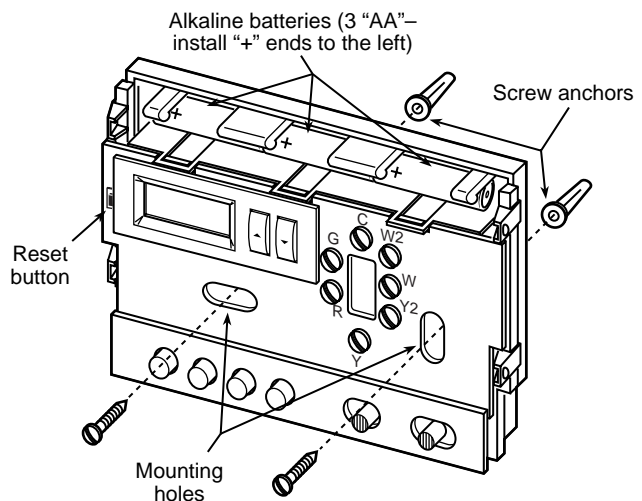

Figure 2. Thermostat base
If **LOW BATTERY** is displayed, the batteries are low and should be replaced with fresh "AA" Energizer® alkaline batteries. To replace batteries, install the batteries along the top of the base (see fig. 2). The batteries must be installed with the positive (+) ends to the left.
5. Fasten the base loosely to the wall, as shown in fig. 2, using two mounting screws. Place a level against the bottom of the base, adjust until level, and then tighten the screws. (Leveling is for appearance only and will not affect thermostat operation.) If you are using existing mounting holes, or if the holes drilled are too large and do not allow you to tighten the base snugly, use plastic screw anchors to secure the base.